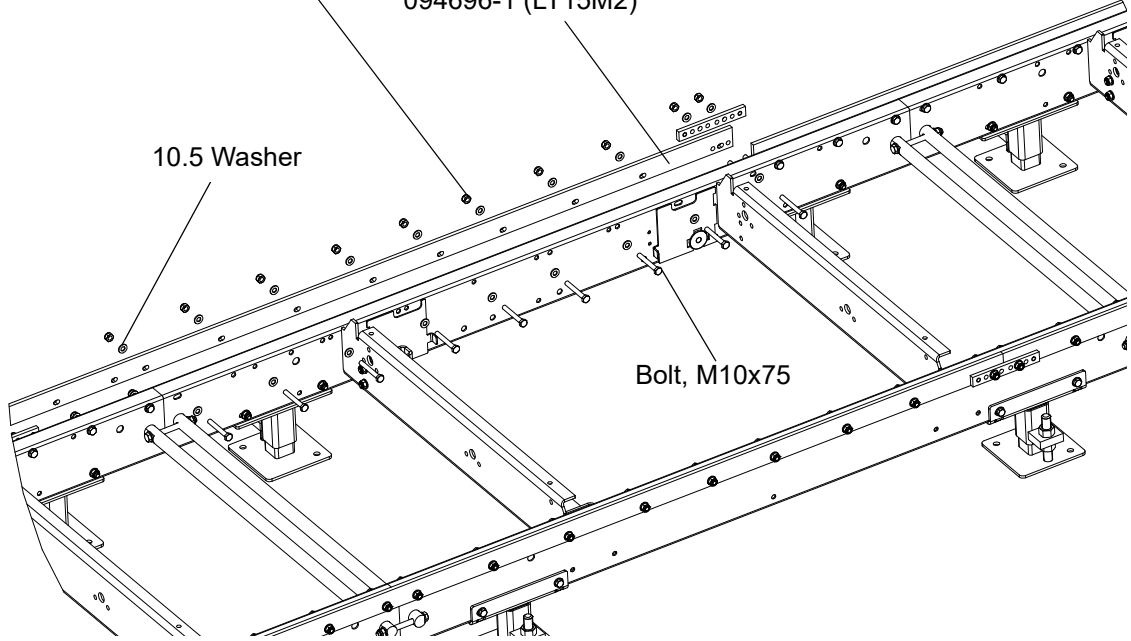

FIG. 2-3
- Mount preliminarily the track rail as shown in Figure 2-3. Do not tighten the nuts.
See figure 2-3.